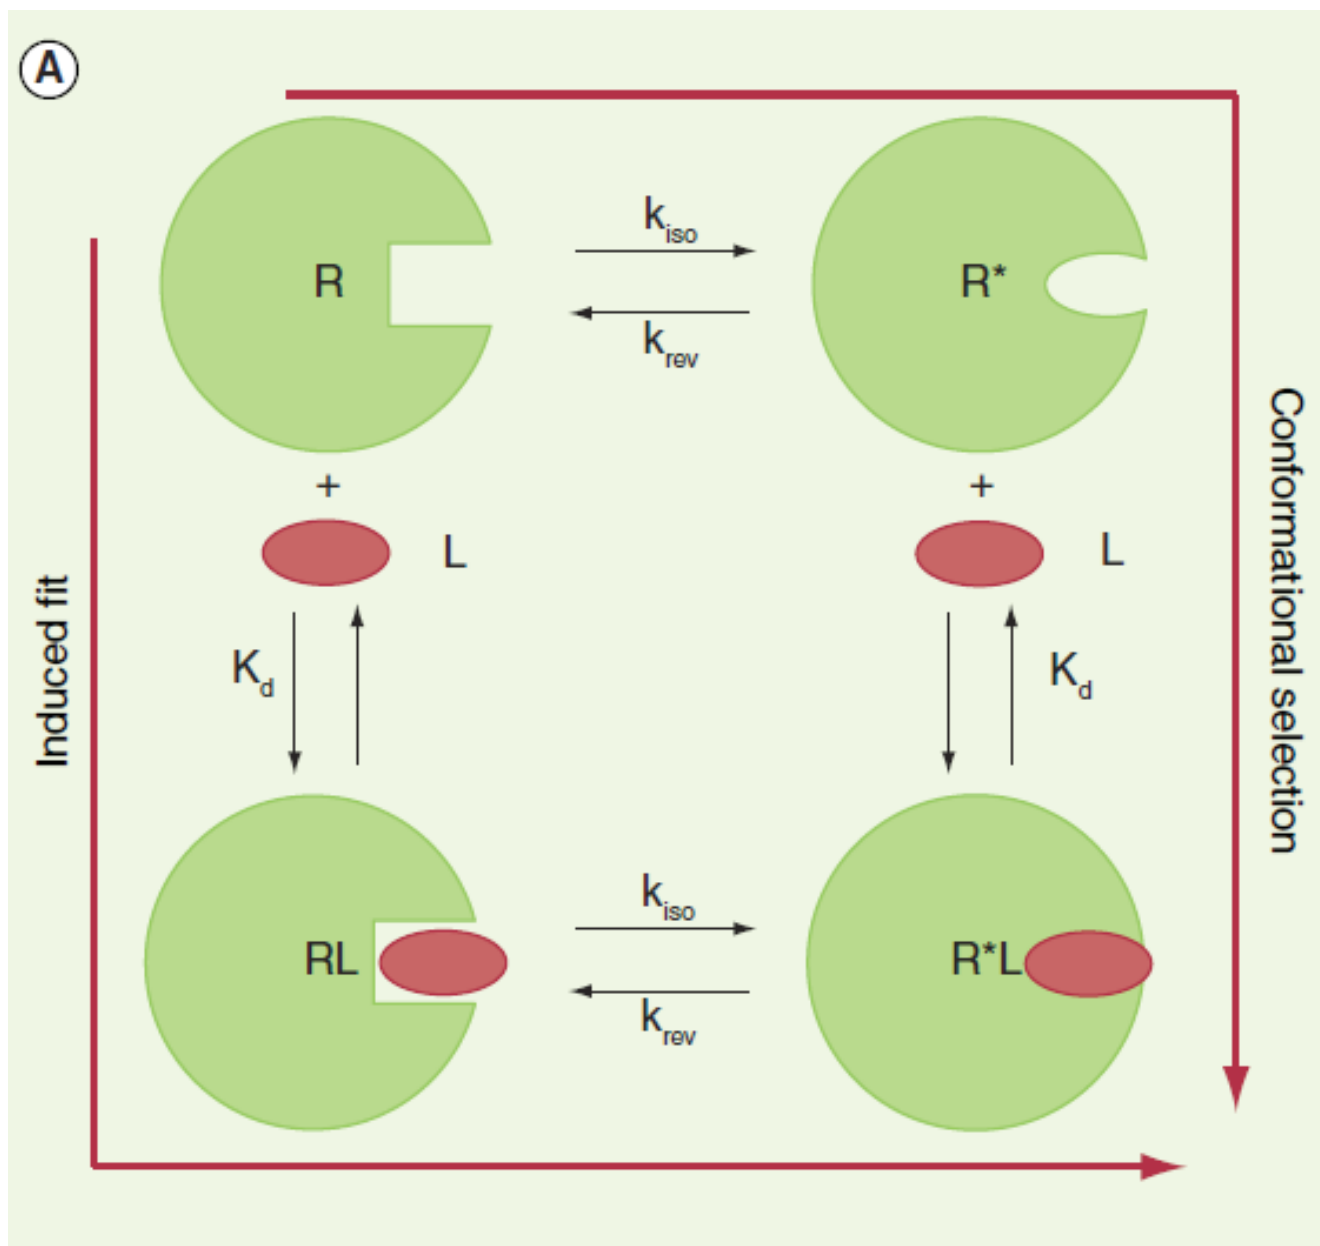

**Figure 1. Static lock-and-key model of receptor–ligand binding in which  $k_{on}$  and  $k_{off}$  each occur in a single kinetic step.**
**Fig. 1.** (A) Typical concentration–response plot for target inhibition by a compound of interest illustrating the starting and ending concentrations of compound, relative to the IC50, used in a jump dilution experiment. (B) Example of a jump dilution progress curve for control samples and for a test compound displaying a residence time of 60 min. Both panels of this figure are adapted and redrawn from Copeland [2].